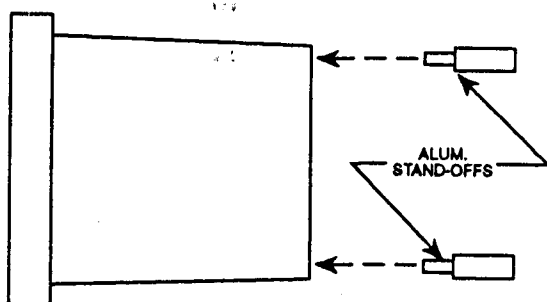

Figure 4-2. Mounting 20 Amp SSR Kit
5. Screw stand-offs into rear of enclosure as shown in Figure 4-2.